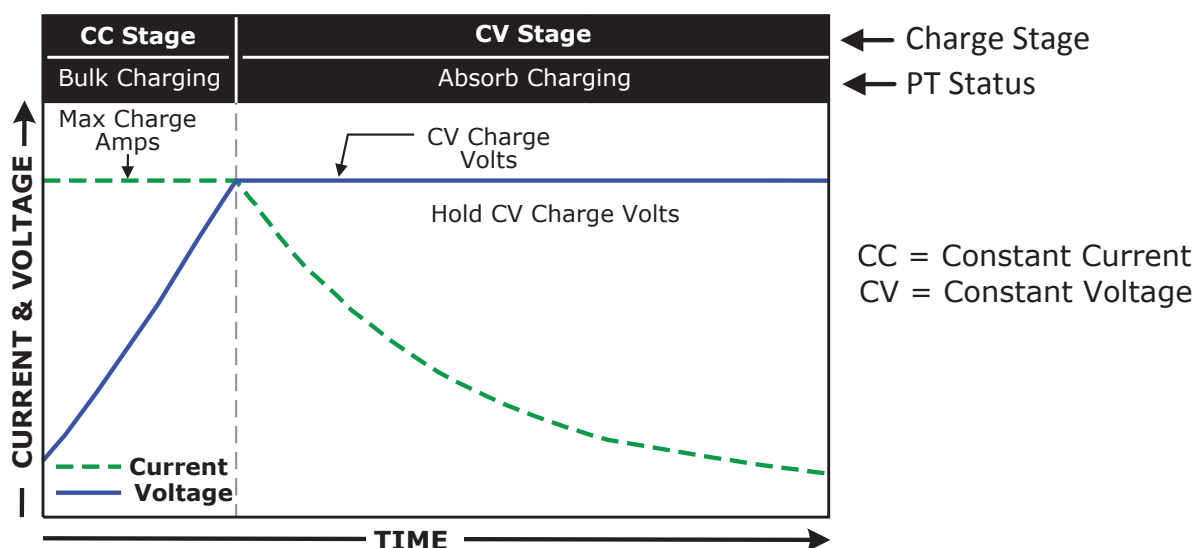

Figure 10-2, Hold CV Charge Volts (PT Controller)
* **Hold CV Chg VDC** – This setting holds the battery voltage at the *CV Charge Volts* setting. This is for a system that requires a constant charge voltage to be present at all times (see Figure 10-2).